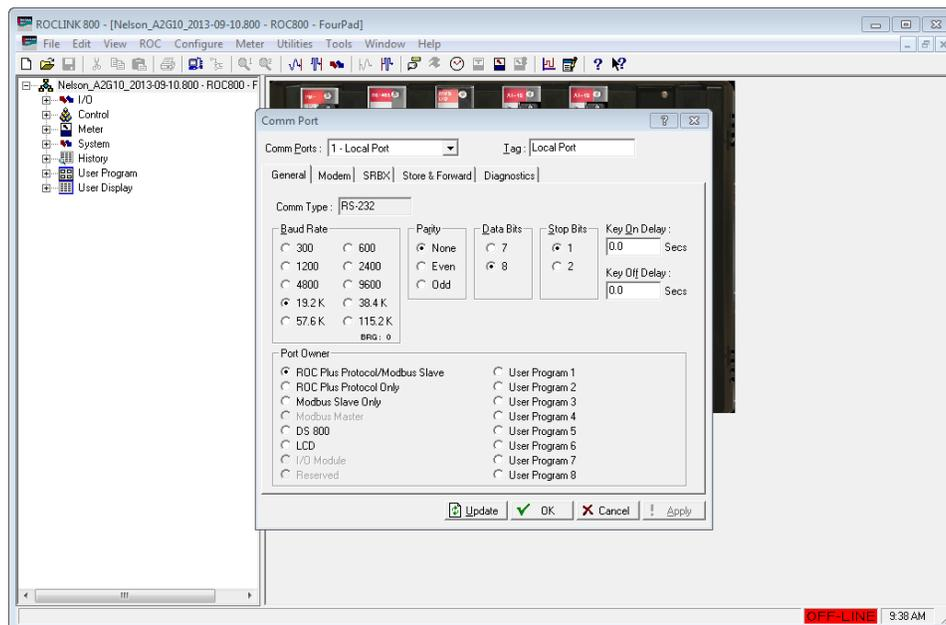

Figure 1.
1. Referring to Figure 1, go to the menu bar and click *ROC – Comm Ports*.